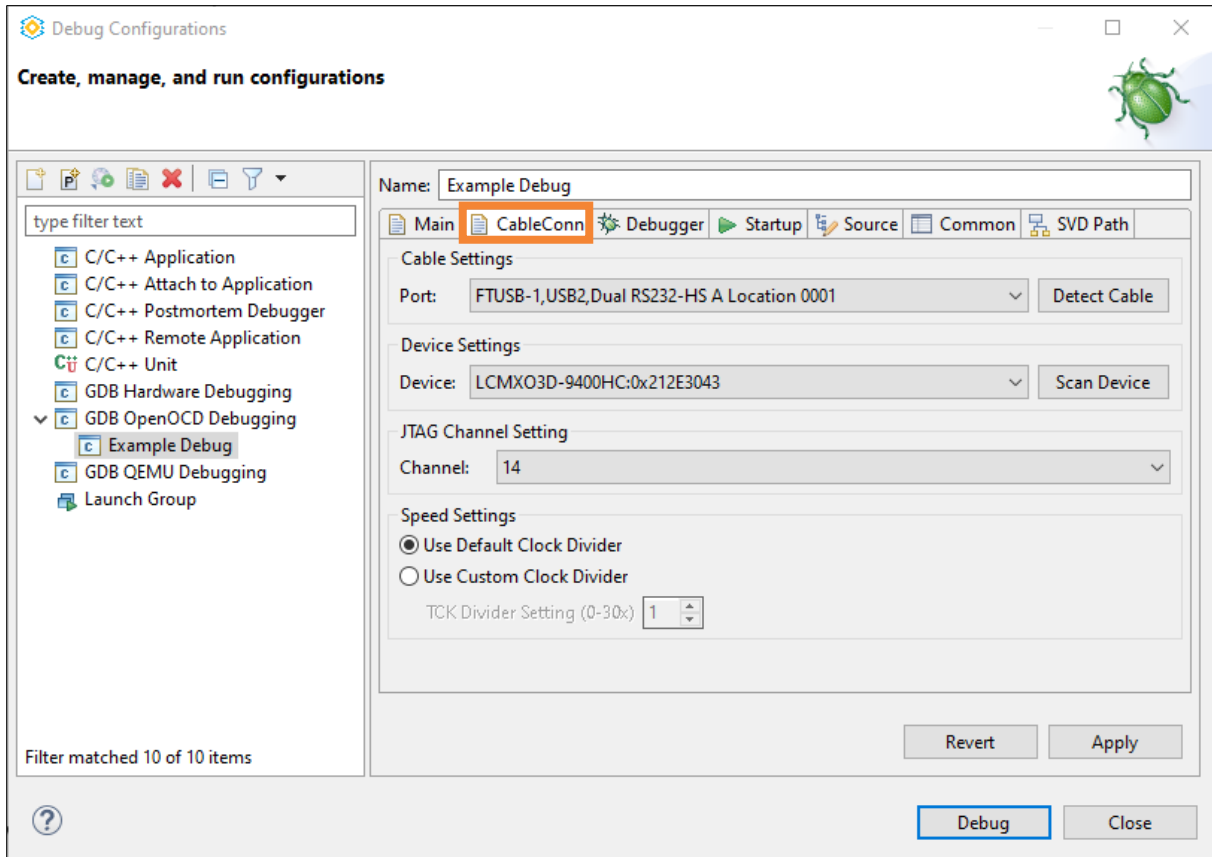

Figure 3.38. CableConn Tab of Debug Configurations
5. Select the **CableConn** tab (Figure 3.38). This tab enables you to select a specific device on a specific cable port. Click the **Detect Cable** button. Select the specific cable port from the **Port** drop-down list. By default, the first available cable port: FTUSB-0 is selected.